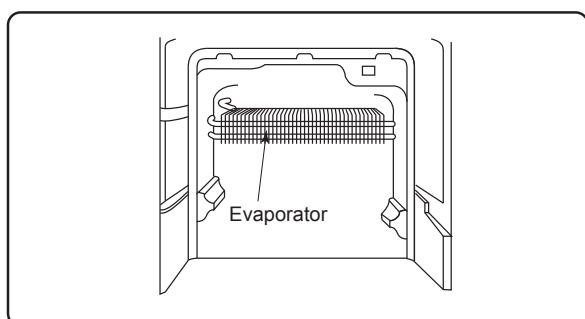

Figure A-3
4. Pull the Evaporator for remove as shown in Figure A-3.